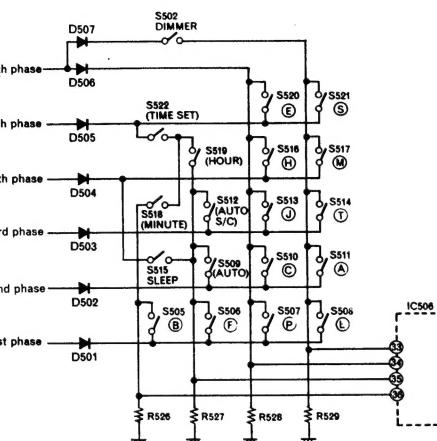

Fig. 10
The pushbutton switch is designed to operate the matrix circuit which performs detection depending on what phase of the 6-phase signal generated by IC505 is input to which of the 4 input terminals. That is to say, the operation buttons as shown in Fig. 10 are connected so as to short-circuit one 6-phase signal and one of terminals (33) – (36). (For example, when button (B) of the world clock is pressed, the 1st phase of the 6-phase signal is input to terminal (36) of IC6.) When more than 2 operation buttons are pressed, the first pressed has priority; when more than 2 buttons are pressed simultaneously, no operation takes place. A program is provided to prevent mis-operation because of chattering or noise. The dimmer switch is assumed to be ON when the 6th phase signal is input to terminals (33) and (34) simultaneously. Other matrix switch signals than the dimmer switch accept the operational input only when the dimmer display is in the clock display mode. Because of this, the display does not change when these buttons are pressed in the frequency display mode.
A program to determine the output of the matrix switch circuit runs when this unit is set to the clock display mode. When the auto button (S512) as shown in Fig. 10 is pressed, the 3rd phase signal is input to terminal (35) of IC506 and the display indicates the auto-set time. When the time set button (S522) and Hour button (S519) or Minute button (S518) are pressed simultaneously, the 5th phase signal is input to terminal (35) or terminal (36) and the auto-time varies every 0.3 sec. When the auto S/C button (S509) is pressed after the autotime is set, the 2nd phase signal is input to terminal (35), the auto-function operates and the present time and the auto-set time are compared every 1/16 sec. When the present time and the auto-set time are the same, the auto-sleep output terminal (17) is set to H level to turn Q521 ON and operates the relay. When this relay operates, power is applied to all circuits except the local oscillator circuit and sound is output. The local oscillator is supplied with power regardless of the standby switch when the power switch is turned ON, so stable reception is obtained at the auto-set time. Since the auto-on time is 60 minutes, when auto-on starts, 1/16 sec is deducted from the 60 minute timer every time the time is updated by 1/16 sec. When this 60 minute timer reaches "0", the auto-on output is set to L level and no sound is output. When the auto-set button is pressed before auto-on after auto-setting or during auto-on, the auto-function is cancelled. The auto-on set time, however, is stored as long as time-setting is not done. When the auto-function is operating, the auto-sleep indicator of the display stays lit until the auto-function is cancelled or until the 60 minute operation is complete after the auto-time setting. When SLEEP is set during auto-setting, the SLEEP indication
When this unit is set to the CLOCK display mode, the program to determine the output of the matrix switch circuit owns. When the Sleep button (S515) as shown in Fig.10 is pressed, the 4th phase signal is input to terminal (35) and the Sleep function is set for 60 minutes. At the same time, the Auto-Sleep indicator flashes every 2 seconds to show that the Sleep function is in operation. 1/16 sec is deducted from the internal 60 minute timer every time the time is updated by 1/16 sec, and when the timer reaches "0", the Auto/Sleep output is set to L level. The Sleep function is cancelled when the Sleep button is pressed during Sleep setting. When Sleep is set during Auto-On, since Sleep takes precedence, Auto-On is automatically cancelled, sound is output for 60 minutes starting at the time sleep is set. However, it is not cancelled during Auto-setting (when the Auto-On time is set to the time after Sleep operation is completed).